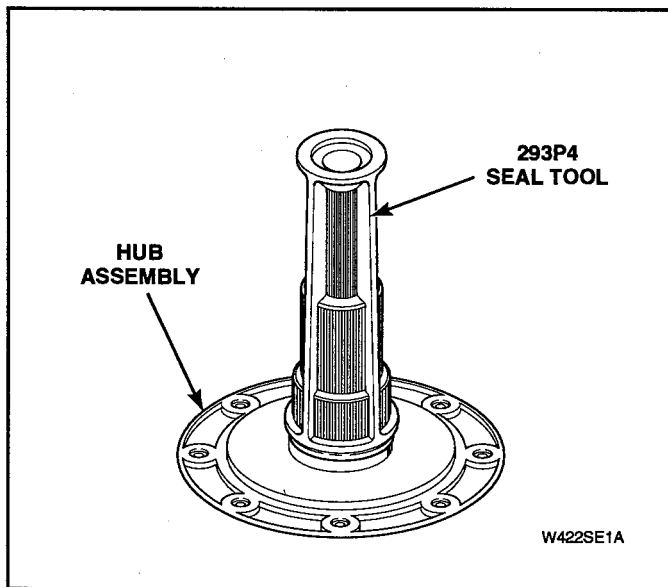

Figure 5-17
- o. Place new drive bell seal onto hub and carefully push into position using large end of No. 293P4 Seal Tool. See Figure 5-17.